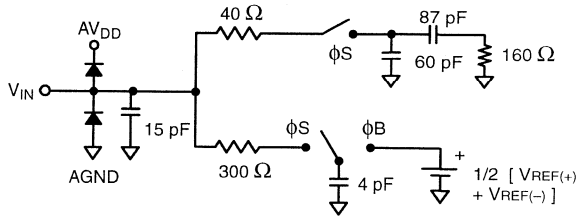

Figure 9. Analog Input Equivalent Circuit
- ³ See V_{IN} input equivalent circuit (see Figure 9).